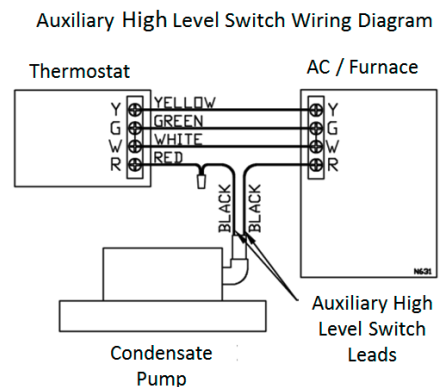

Figure 4
- c. Connect the auxiliary high level switch leads in series with the low voltage thermostat circuit as specified in the heating/cooling unit's Operating Manual (Figure 4).